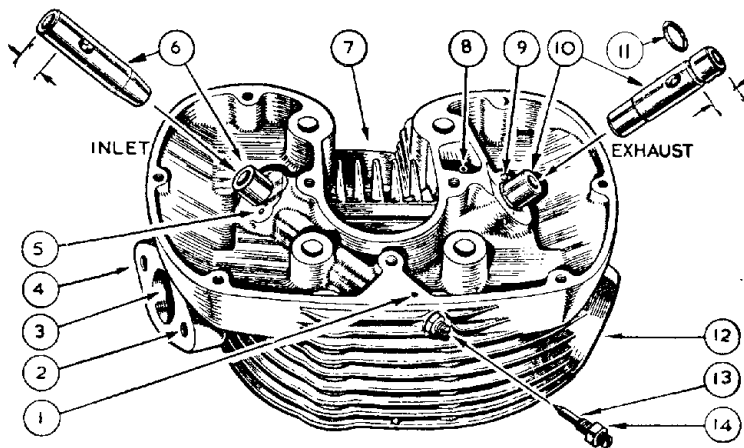

FIG 4 Cylinder head
Replacing the valves. A valve spring compressor is required to compress the springs and a special tool which is inexpensive, can be obtained from dealers. Before fitting the valve springs, position correctly the valve spring seat. The raised portion on the underside is located with the depression (5) in cylinder head. (Fig. 4.) The inlet valve is the larger of the two valves and it is vitally important to locate correctly the two split collets into the grooves on each valve stem.